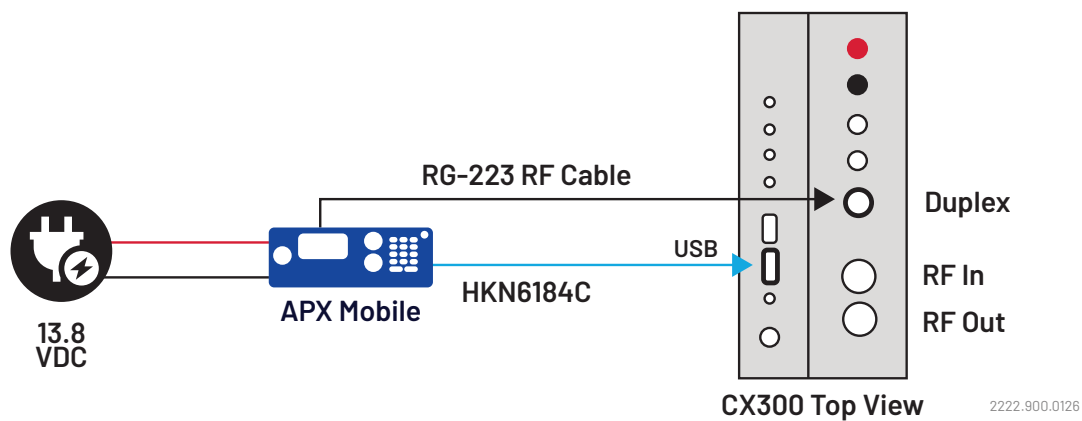

Figure 3. Mobile Without Current Shunt
3. (Fig.3) shows the connection information Without Current Shunt and using programming cable: HKN6184C